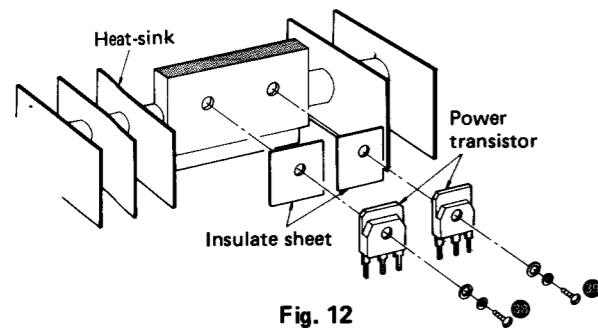

Fig. 12
3. Remove the 2 setscrews (38, 39) in Fig. 12) of the power transistor.
4. Remove the 2 setscrews (38 ~ 39 in Fig. 12) of the power transistor.